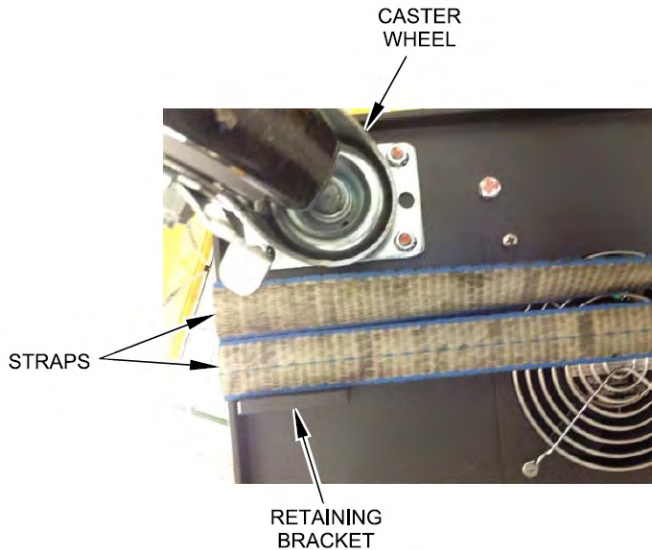

Figure 2-3 Straps - Correct Position
- d. Make sure that the webbed straps go between the caster wheel and the retaining bracket. Refer to Figure 2-3.